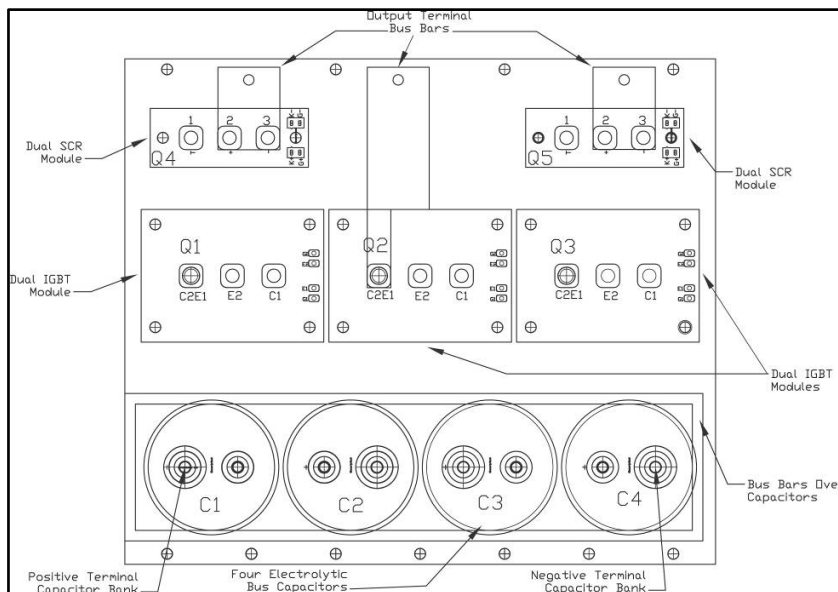

Figure 5.2a – 39, 45, 78, 90 and 100 amp Power Component Layout
- Measure resistance of power semiconductors using a multimeter set on the diode check setting, see **Figure 5.2a or 5.2b**. Look for opens, ∞ , or dead short readings. With the red lead of your meter connected to the far right negative terminal of the capacitor bank, measure with the black lead of the meter to each of the three output terminals (bus bars), the reading should be approximately 0.35Ω . Reverse the meter leads and repeat measuring to each terminal. This time a low reading will be present which will continue to increase; this is an indication of a capacitor charging. Next connect the black meter lead to the “positive capacitor terminal” and again measure to each of the output terminals with the other lead; the reading should be approximately 0.35Ω . Reverse the meter leads and repeat measuring to each terminal. Again it will be a low reading which will continue to increase. If the readings are as described, in all likelihood the power semiconductors are good. If any readings are opens or dead shorts it will be an indication that something is bad in the power section. Do not reapply power if you are not sure the IGBT's are good.